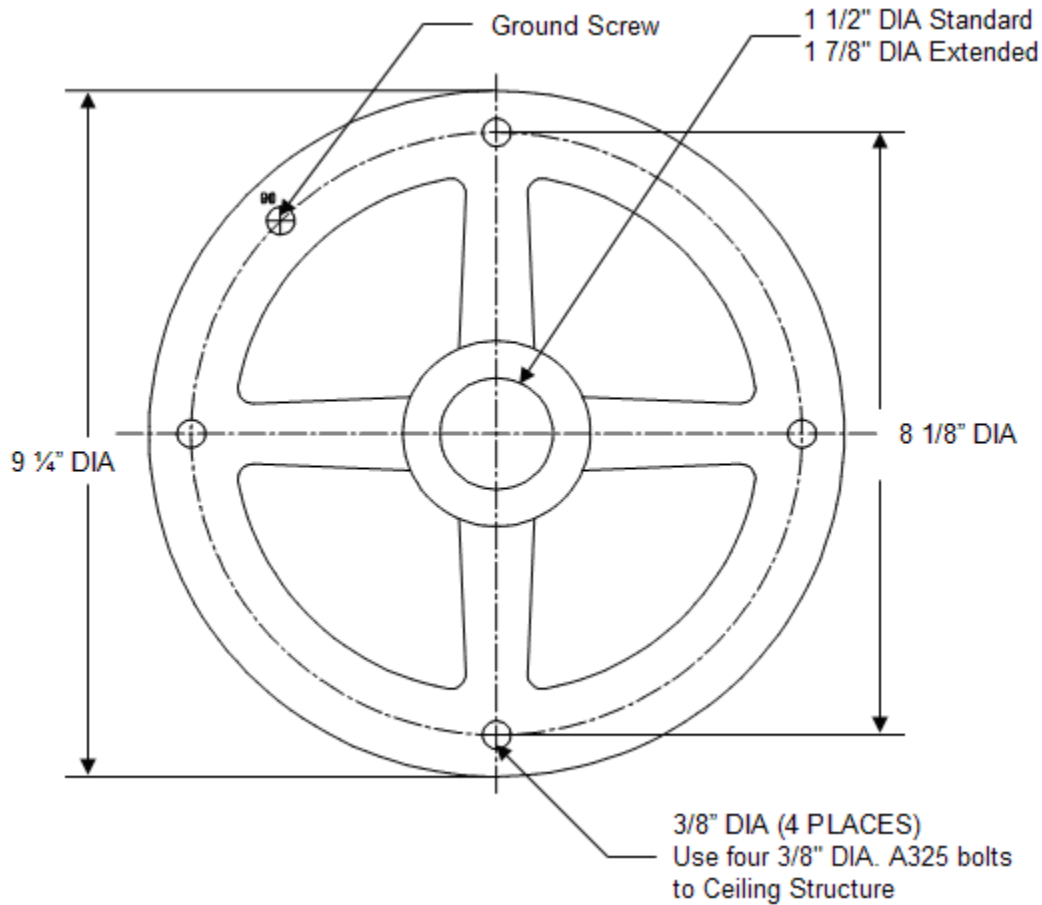

Figure 4. Ceiling Casting Mount Diagram
- Figure 4. Ceiling Casting Mount Diagram).
- **Figure 4. Ceiling Casting Mount Diagram). Make all electrical connections in compliance with all applicable electrical codes.**